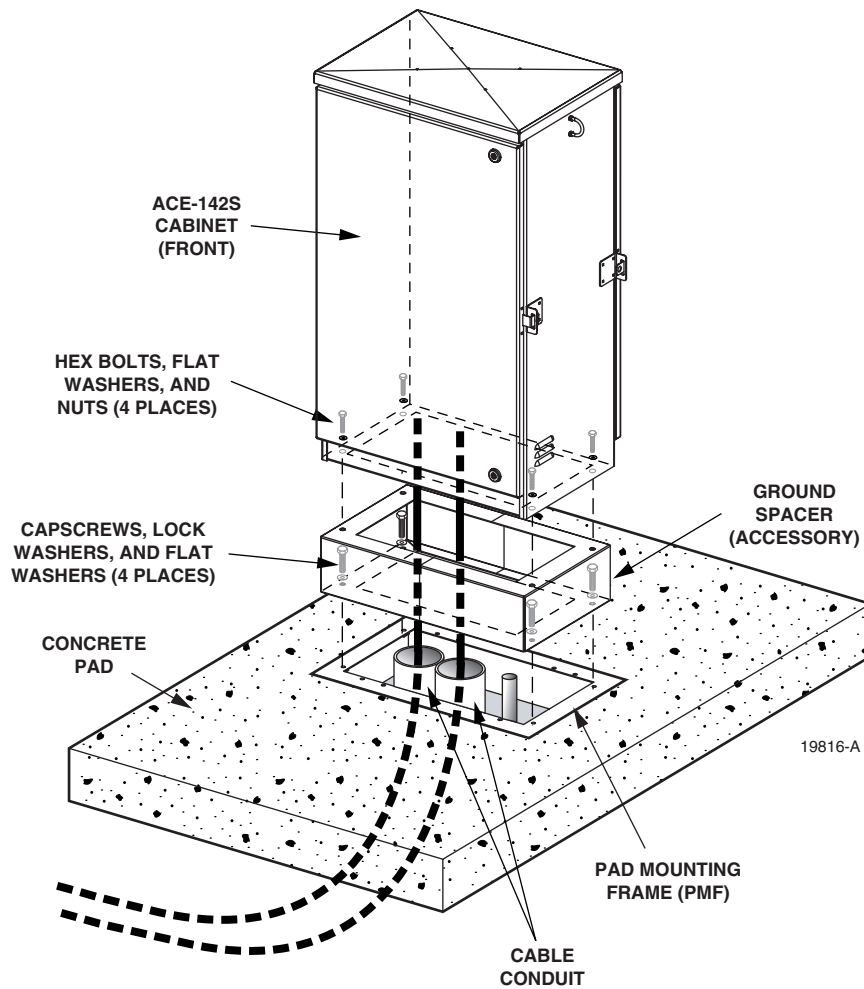

Figure 11. Mounting the ACE-142V Cabinet on the Concrete Pad
- 3. Place the assembled ground spacer in position for mounting on the PMF as shown in Figure 11.
7. Using appropriate lifting equipment, hold the cabinet in position over the pad (see Figure 11) so the cabinet is suspended over the rectangular opening in the top of the ground spacer or PMF.